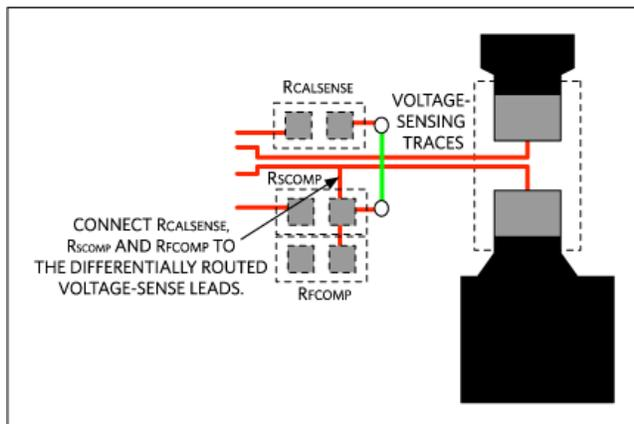

Figure 7. Connect $R_{CALSENSE}$, R_{SCOMP} , and R_{FCOMP} to the differentially routed voltage-sense leads.
- The connection from $R_{CALSENSE}$, R_{SCOMP} , and R_{FCOMP} to R_{SENSE} should be made directly to the differentially routed kelvin-sensed traces. See Figure 7.